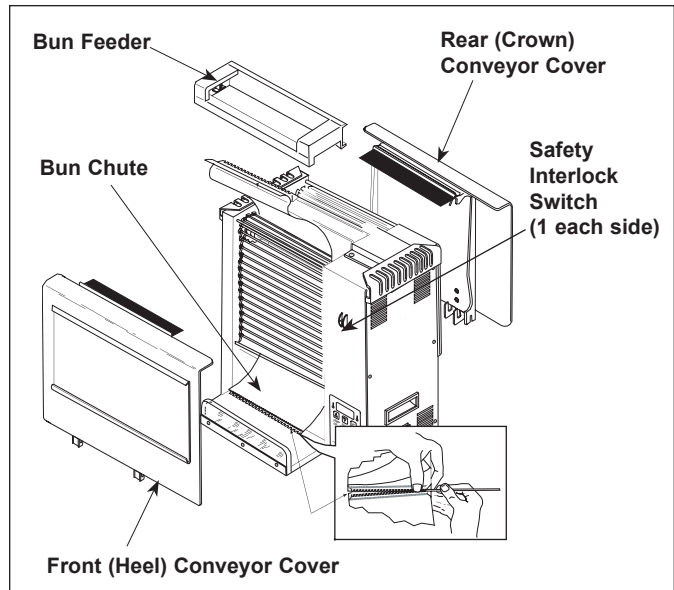

Figure 11. Replacing Groovy Belt
3. Remove the bun feeder and bun chute (Figure 11). Wash them at the sink and allow to air dry.
NOTE: Make sure both conveyor safety interlock switches are activated (depressed) when the covers are closed(Figure 11, page 12) or conveyors will not rotate.
1. Locate hinge flap on belt wrap, if hinge flap is not visible; plug in power cord and turn unit on, press down on both interlock switches (Figure 11) and wait until hinge flap is exposed and centered.
NOTE: Make sure **both** conveyor safety interlock switches are activated (depressed) when the covers are installed (Figure 11) or conveyors will not rotate.